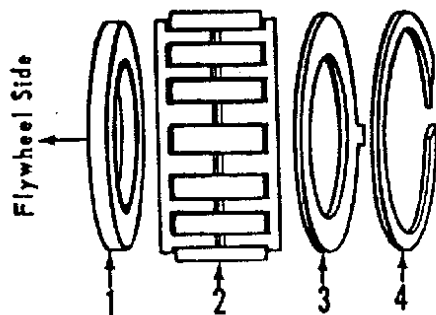
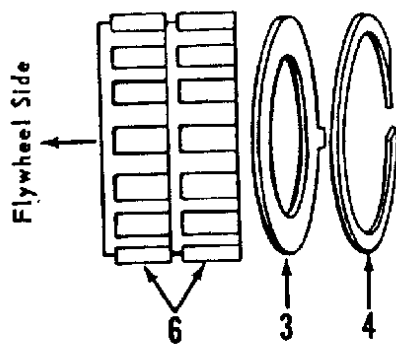

FIGURE 1
FIGURE 3
After installing and locking new bushing, refit bearing with roller bearing assembly 29650-54. This bearing is described under FIG. 3 of Shop Dope No. 348. This bearing has greater bearing area than earlier bearings used. Beginning with engine No. 54FL5010, this bearing was used in production for the remainder of the 1954 season.
Figure 1 on page 1 shows roller bearing and adjacent parts in correct order of assembly, as used in all OHV model engines from 1940 to late 1953. The bearing complete (2) part number 24650-36 is shown as it is being supplied on parts order.
NOTE: This bearing, carrying the same part number (24650-36) as bearing shown in Fig. 1, was used for only a short period of time and was then discontinued and replaced with bearing shown in Fig. 3. Bearing shown in Fig. 1 is now furnished on parts order calling for part number 24650-36.
NOTE: Spacer 24695-40 shown in Figs. 1 and 2 cannot be used with this bearing.
Figure 3 on page 1 shows roller bearing and adjacent parts in correct order of assembly as used in 1954 OHV model engines from engine number 54FL 5010 to the season's end. This bearing (24650-54) will not fit 74 and 80 cu. in. Side-Valve models or OHV models earlier than 1940.
**RECOMMENDATION** - Use only the bearing shown in Fig. 3 for all servicing of OHV engines from 1940 to and including 1954, as it has greater bearing area than earlier bearings used.